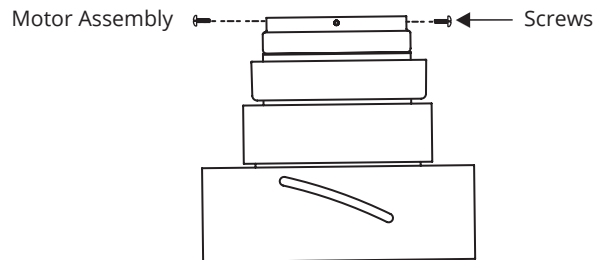

FIGURE 5
2. Remove 2 of 4 screws from the bottom of mounting bracket and save for use in section 9. Loosen the other two screws. (Fig. 5)
3. Pass the 120-volt supply wires through the center hole in the ceiling mounting bracket as shown in (Fig. 5)